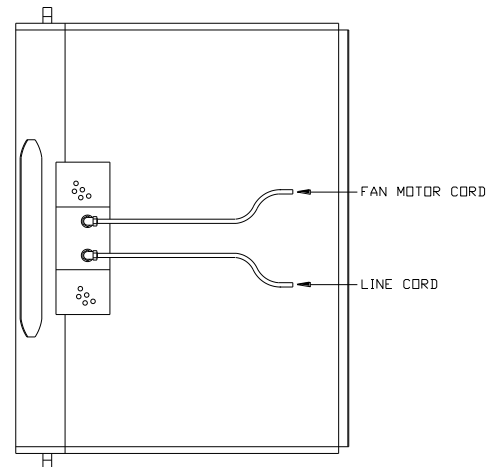

Figure 8. Strain Relief
Step 15: Insert wiring from the fan motor into the strain relief on the top of the electrical box, as shown in Figure 8.